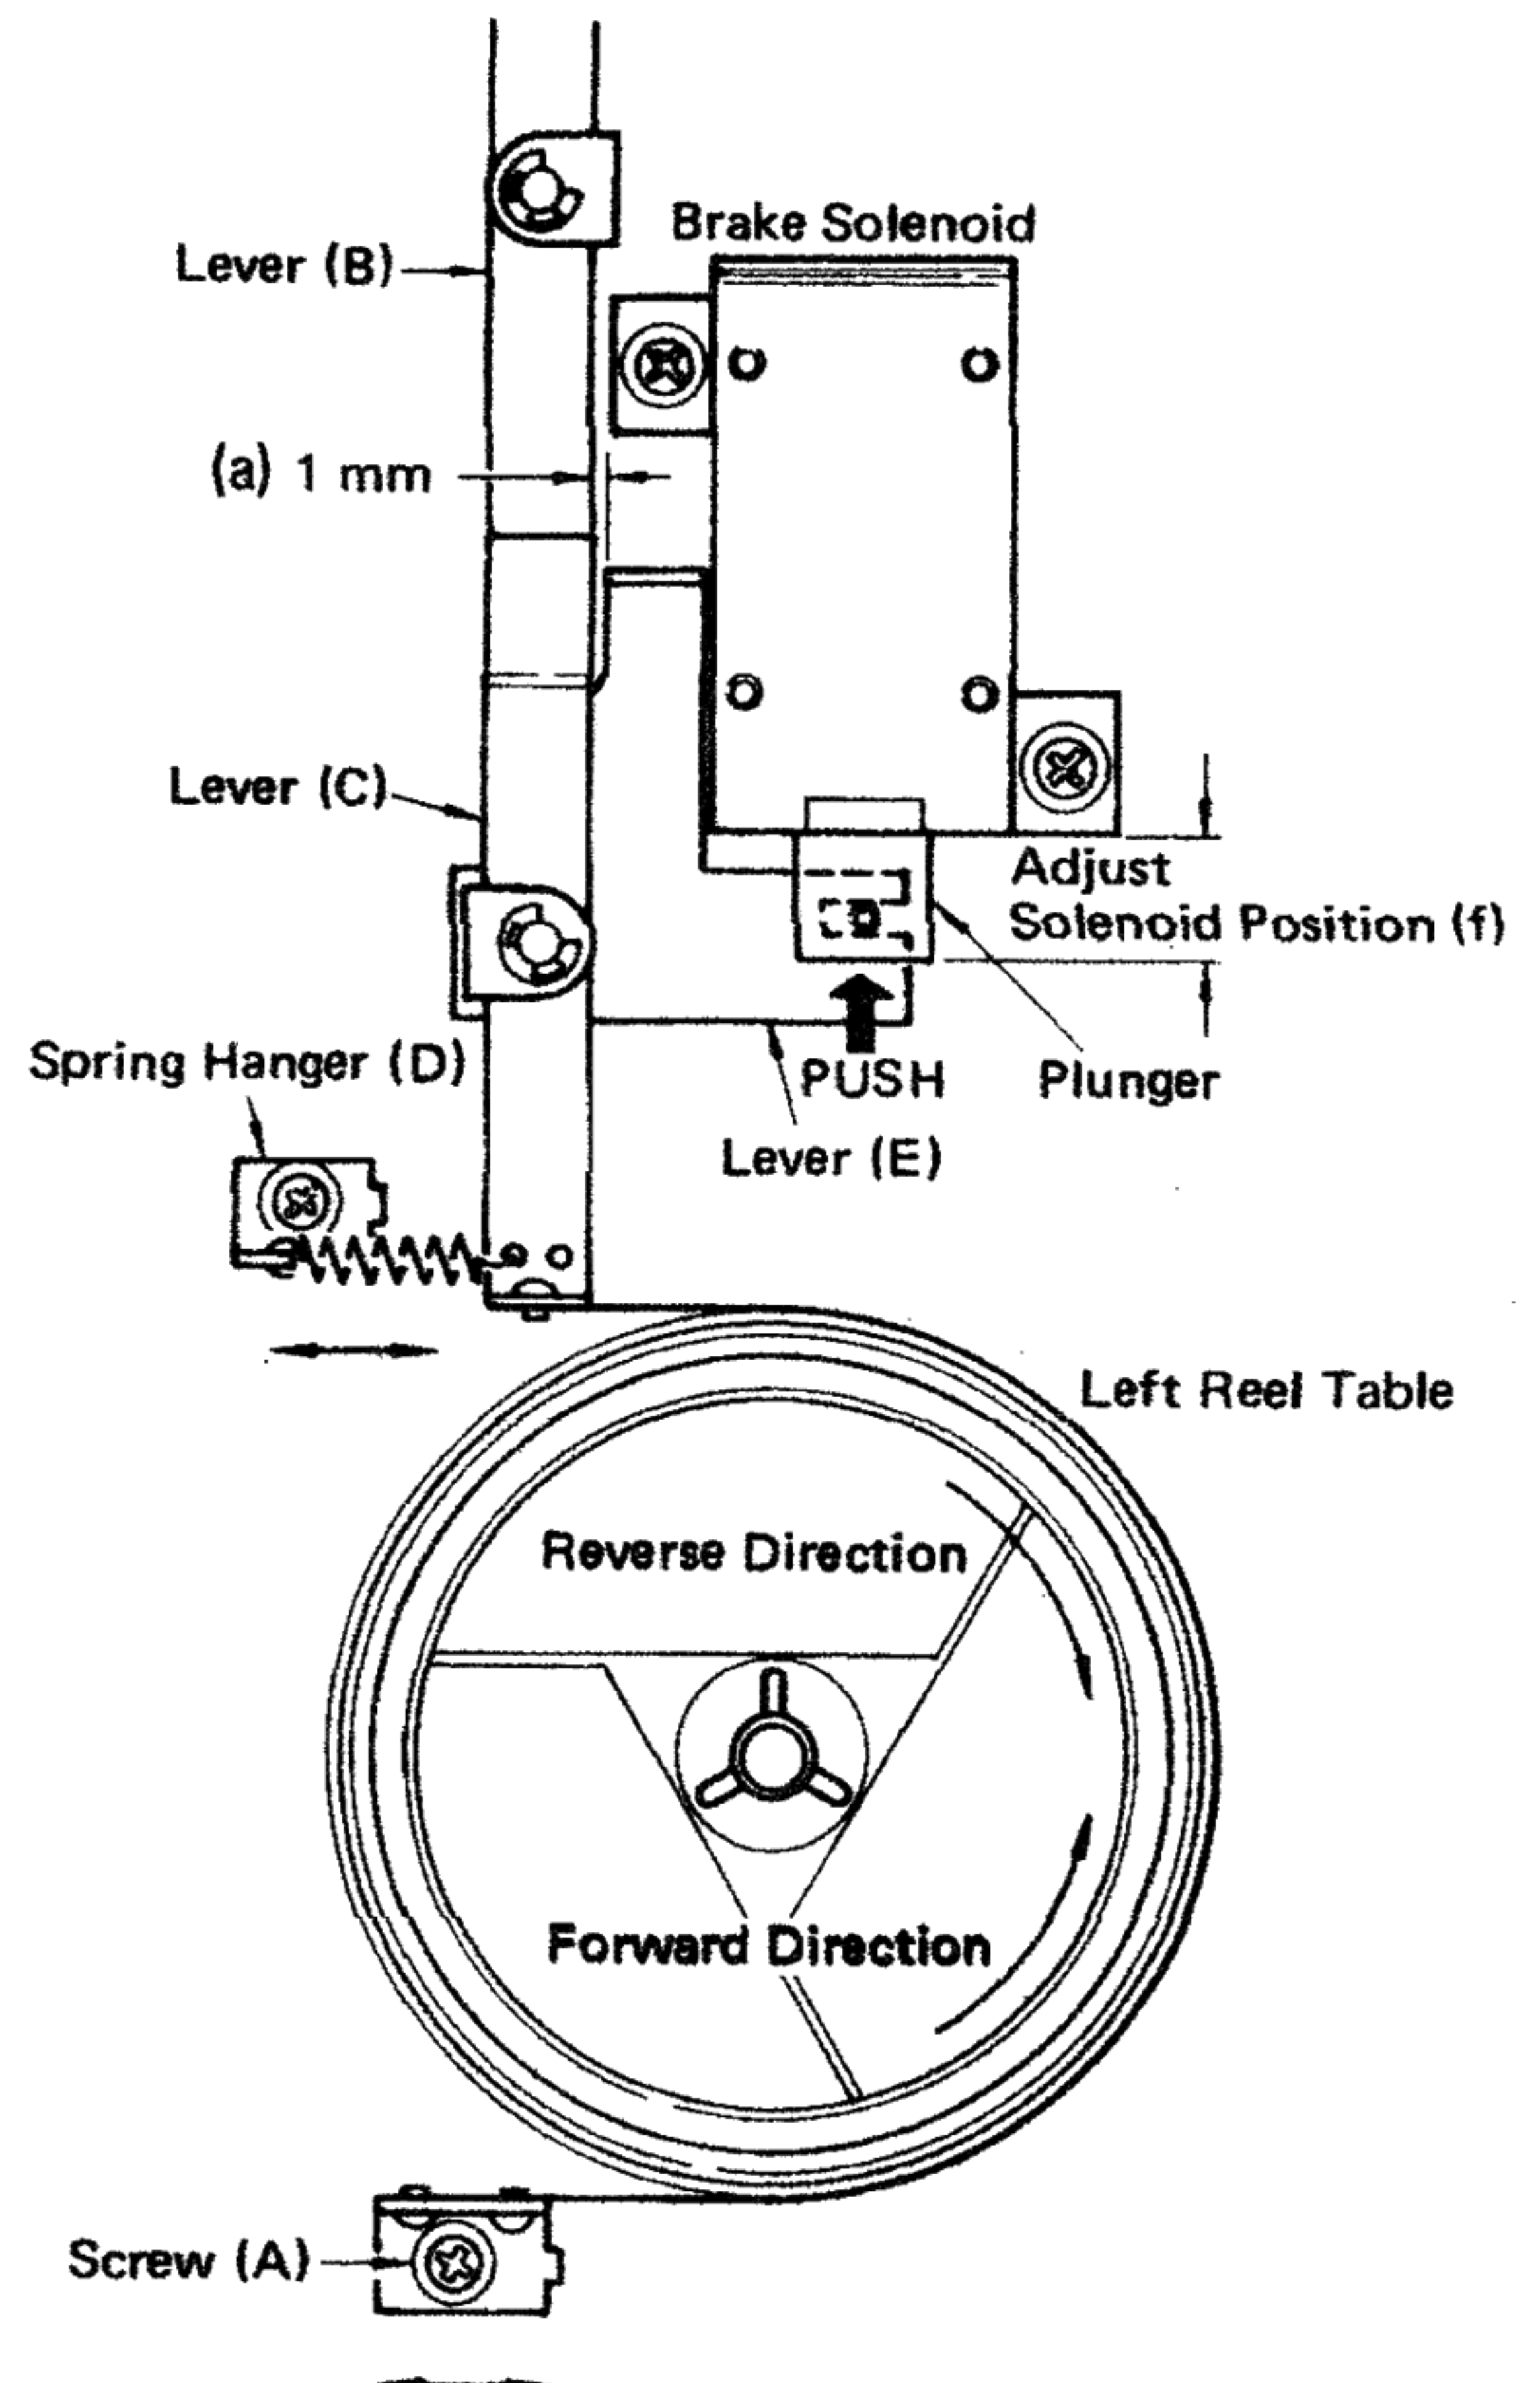

Fig. 4-3
4. If the forward-direction torque is not correct, change the hooking position of the spring hanger (reference (D) in Fig. 4-3) for the corresponding brake requiring adjustment. If, after the forward-direction torque has been properly adjusted, the reverse-direction torque is not correct, or the forward-direction torque is still not correct, check to see if the brake felt pad is worn, and also check that the brake mechanism is properly aligned as explained in Section 4-3, "Brake mechanism". If necessary, replace the entire reel table.